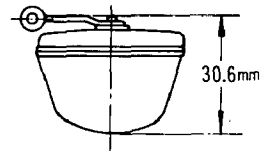

Fig. 9-2-2
- 1) Check float with a depth gauge and if necessary, bend float lever to obtain the setting indicated in Fig. 9-2-2. When bending, be sure the top of lever that contacts the fuel valve remains flat and parallel.